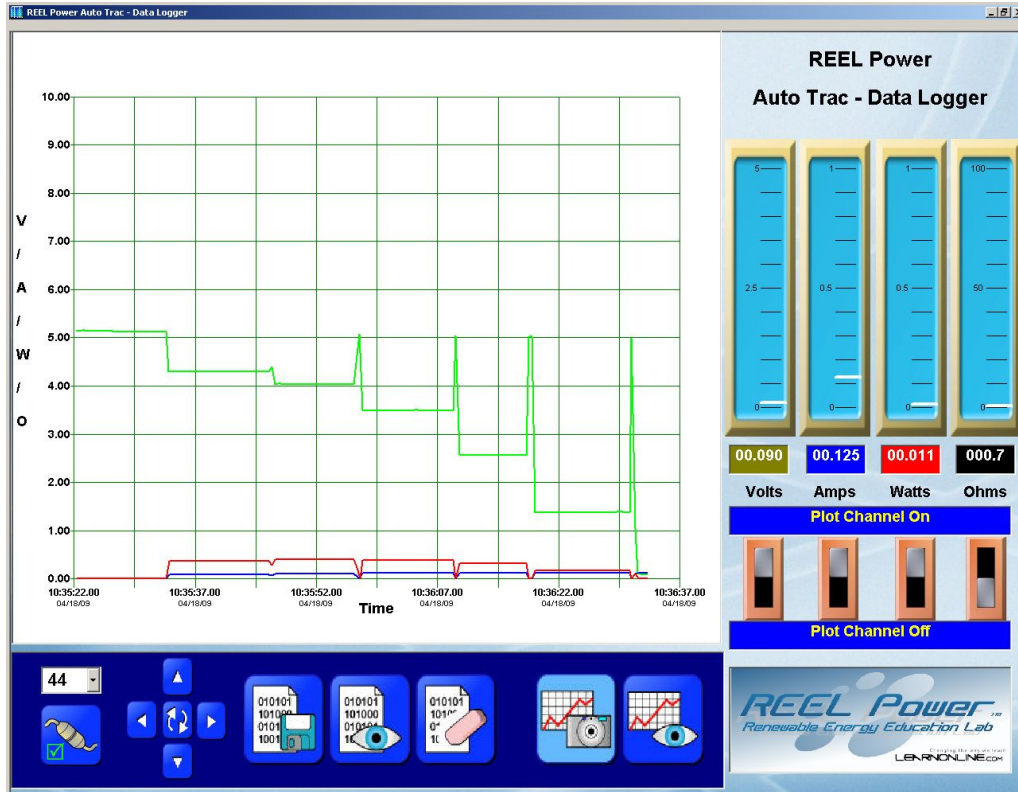

Figure 4 – Plot of Maximum Power Point with Solar Panels in Series
4. Push the **Track** key on the **Smart Meter – Data Logger™** until the **View Trackx Data** message is displayed where Trackx is the Track used to record the first exercise with the solar panels in series. A plot similar to Figure 4 should appear.
5. Begin the discussion by having students look at the plot in Figure 4 in more detail. Have them make a table of voltage, current, resistance and power for each resistor value used including the open and closed circuit hookups. The table should look like this. Based on the readings it appears that the wattage with the 40 ohm resistor value produces the most power. Your results may differ.